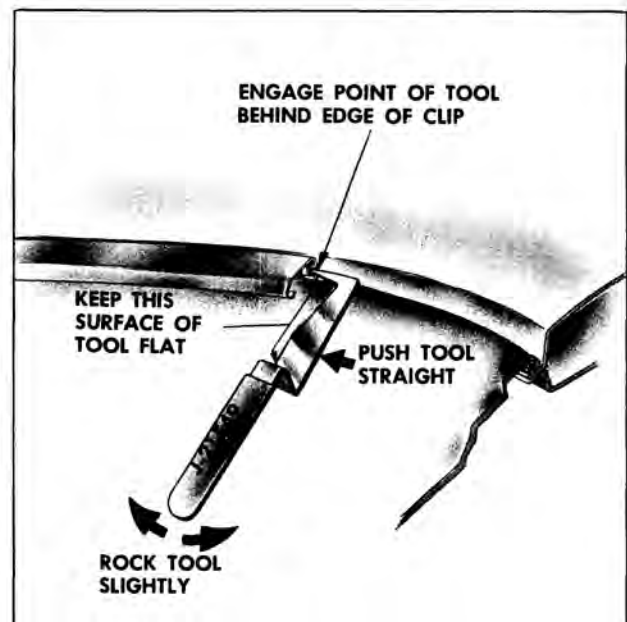

Fig. 16-304 Disengaging Molding from Clip
moved in sequence as listed, using reveal molding clip disengagement Tool J-21549. (Fig. 16-304)
4. Remove windshield reveal moldings using reveal molding clip disengagement tool, J-21549. (Fig. 16-304) Remove upper reveal moldings first. Next, disengage side reveal moldings; then, remove lower reveal molding.
4. Remove windshield reveal moldings using reveal molding clip disengagement tool, J-21549. (Fig. 16-304) Remove upper reveal molding first. Next, disengage side reveal moldings then, remove lower reveal molding.